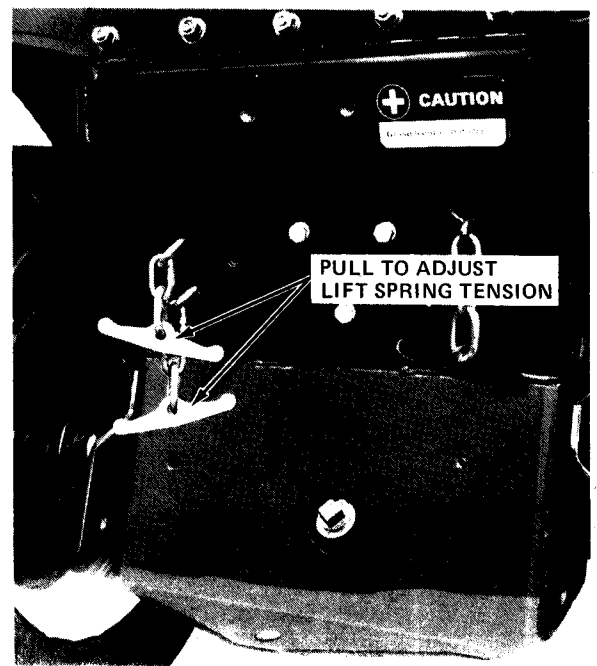

FIGURE 4
6. Release spring tension from front rock shaft lift springs on manual lift tractors as shown in Figure 4. Grasp the chain handle firmly, pull rearward to release chain links from tractor frame and carefully allow chain to move forward in the slots.
8. Reapply spring tension to the front rock shaft lift springs as shown in Figure 4.